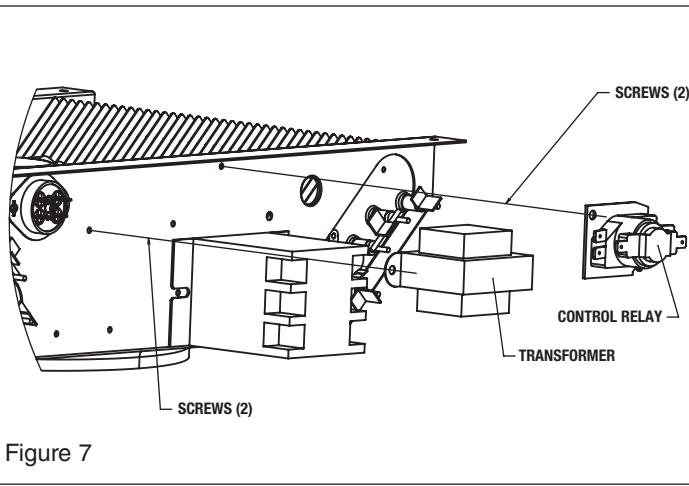

Figure 7
1. Install the Transformer and Relay as shown in Figure 7.